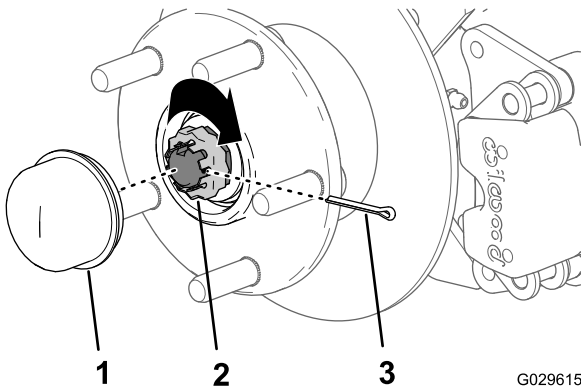

Figure 32
8. Install the retainer over the nut and check the alignment of the slot in the retainer and the hole in the spindle for the cotter pin (Figure 32).
9. Install the cotter pin and bend each leg around the retainer (Figure 32).
10. Install the dust cap onto the hub (Figure 32).